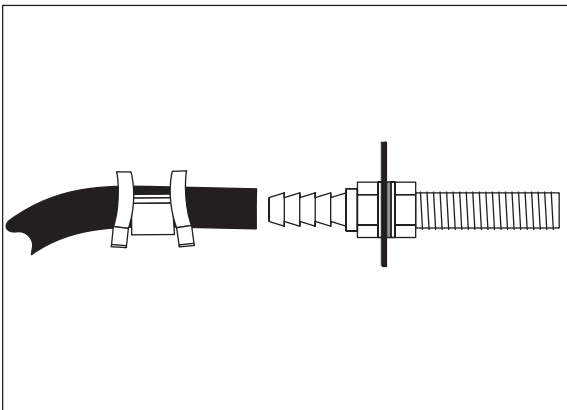

Figure 7
- d. Push the air line over one side of the tee until all the barbs are covered. Repeat procedure for other leg of tee. With pliers slide the air line clamp forward until it fully covers the barbed section. Repeat for other leg of tee (Figure 7).
- k. Slide air line clamp over the air line. Push air line onto fitting covering all barbs, with pliers slide the air line clamp forward until it fully covers the barbed section (Figure 7).
- i. Slide a clamp onto the air line and push the air line over the fitting, covering all the barbs. With pliers slide the air line clamp forward until it fully covers the barbed section (Figure 7).